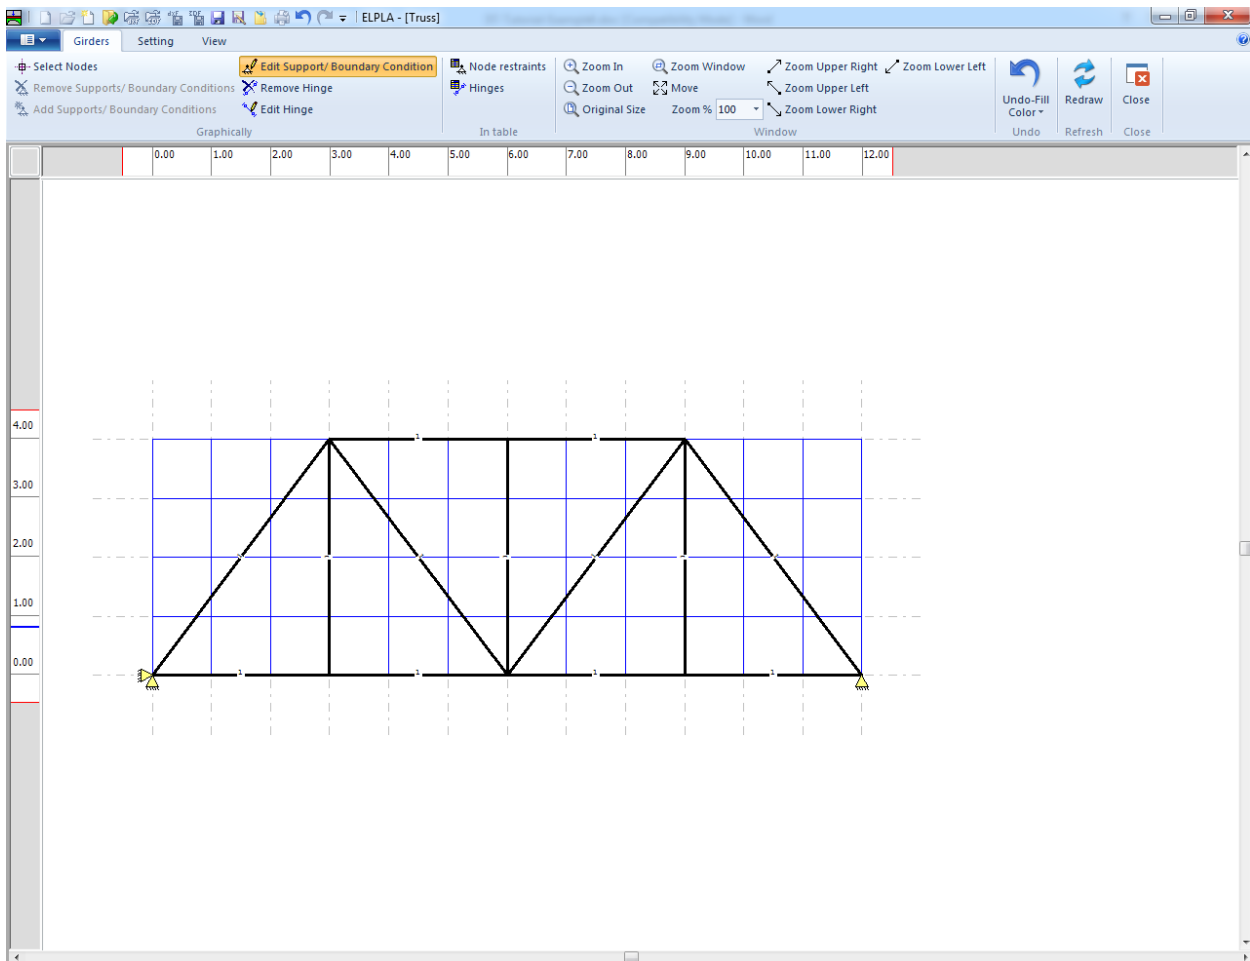

Figure 6.23 Supports
After you have completed the definition of supports, the screen should look like the following Figure 6.23.
- Choose "Save " command from "File" menu in Figure 6.23 to save the data of supports
- Choose "Close" command from "File" menu in Figure 6.23 to close the "Supports/ Boundary conditions" Window and return to the main window.